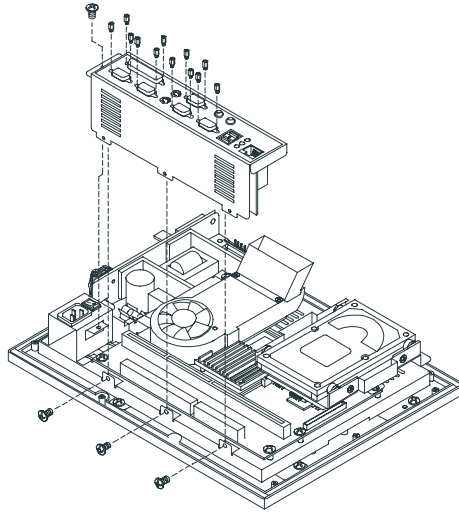

Figure 2.13: Installing/removing the I/O adapter
4. When the PCM-9573 is mounted in the panel, plug and press the adapter into the socket (see Figure 2-13).